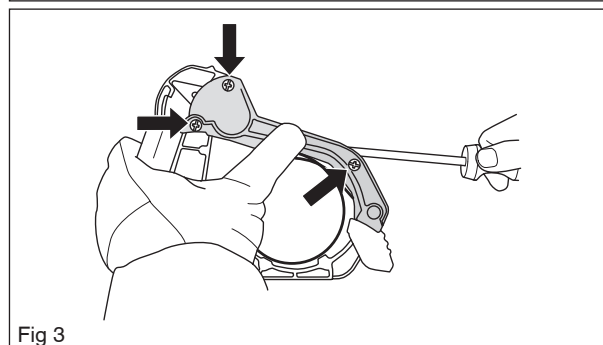

Fig 3
5. Loosen the screws and insert a screwdriver to maintain pressure on the spring, and then carefully remove the cover over the brake spring, see fig. 3.